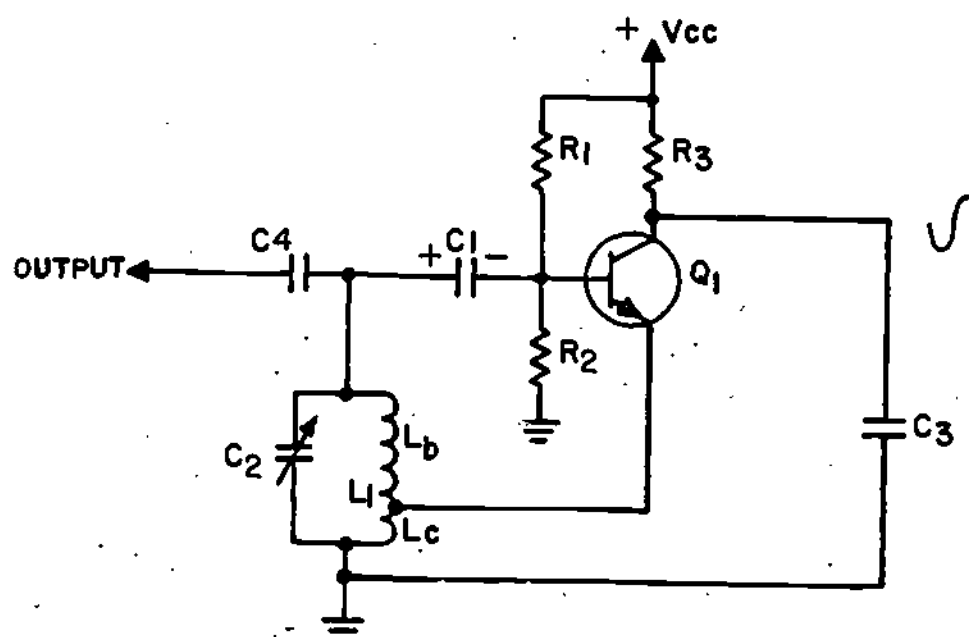

Figure 9
15. Again refer to the Hartley schematic shown in Figure 9. Once the oscillator begins to oscillate, the base-emitter voltage of Q1, as measured with a voltmeter, drops to less than 0.6 volt. In fact it may even become negative. The reason for this is the charge on C1. C1 couples the tank signal to the transistor base and isolates the tank from the direct current, or DC biasing network. Thus, the capacitor develops a small voltage across it which opposes the transistor forward bias established by R1 and R2. This reduces the positive base-emitter potential of Q1. The amplitude of the tank signal must be sufficient to ensure continued transistor conduction. The conduction time of Q1 determines the class of oscillator operation.
Again refer to the schematic in Figure 9. Trace the current flow from ground through Q1. Notice that the current passes through coil L_c . This current flow increases the voltage drop across the coil and the coil functions like a series resistor. You should recall that increasing the resistance of a tank coil reduces the Q of the coil and the tank circuit. There is one undesirable effect associated with this and that is the tank bandwidth increases, causing the oscillator to oscillate at a frequency other than the frequency originally desired.